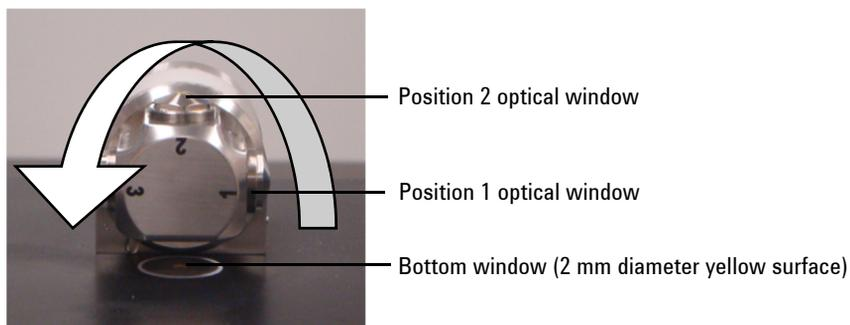

Figure 13. DialPath with optical window facing up
In the sample loading and cleaning mode, the DialPath is rotated so the optical window is facing up (see Figure 13). In this position, the sample mounting area can be easily accessed for loading the sample into place and for cleaning the sampling surfaces before the next sample is analyzed.
- 1 Rotate the DialPath so that optical window Position 2 is pointing upward (see Figure 13).